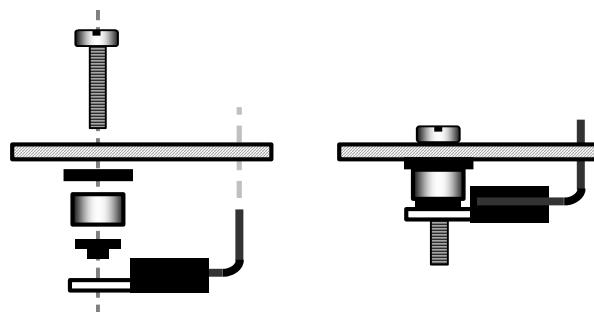

Figure 6-31
- Prepare the leads of Q7 as shown in Figure 6-31. *Bend the leads upward, away from the tab*--the opposite of the way you bent the leads of Q6. Form the leads using the shaft of a small screwdriver to create gradual bends. Do not install Q7 yet.
- Insert a 4-40 x 1/2" (12.7 mm) screw through the PC board hole for Q7's tab (see Figure 6-31). Then slip the hardware listed below onto this mounting screw from the bottom side. (The shoulder washer can be found with the **MISCELLANEOUS** components.)
Place Q7 on the bottom of the board so that the leads are inserted into the PC board as indicated by Q7's component outline. The mounting screw and hardware should appear as shown in Figure 6-31. Do not solder yet.
- Once Q7 and its hardware appears to be parallel to the PC board as shown in Figure 6-31, solder Q7 on the top of the board.